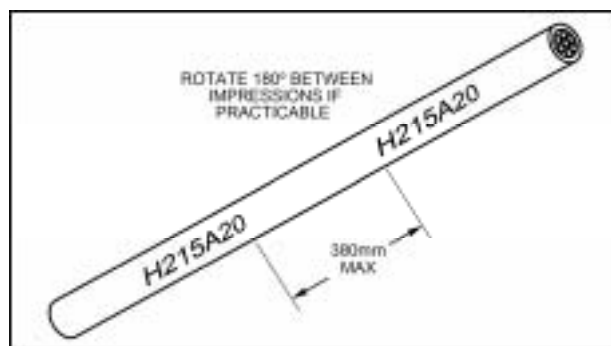

Figure 2-2 Spacing of Identification Marking on Wire and Cable
31. Mark wires and cables at intervals of not more than 38cm along their entire lengths (refer Figure 2-2). In addition, mark wires within 75mm of each junction (except permanent splices), and at each terminating point. Wires less than 15cm long need not be marked.